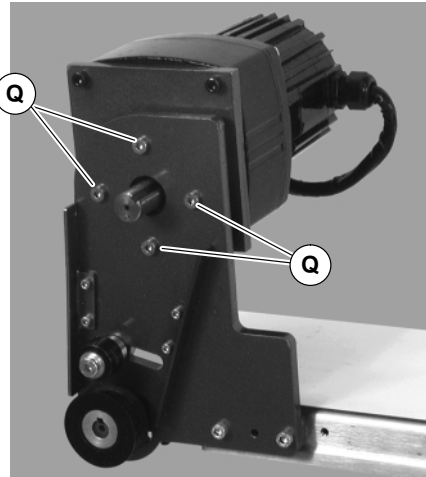

Figure 14
7. Remove four (4) gear motor mounting screws (Q of Figure 14). Remove gearmotor.
9. Install new gearmotor to adapter plate and mounting bracket. Tighten screws (Q of Figure 14) to 103 in-lb (12 Nm).